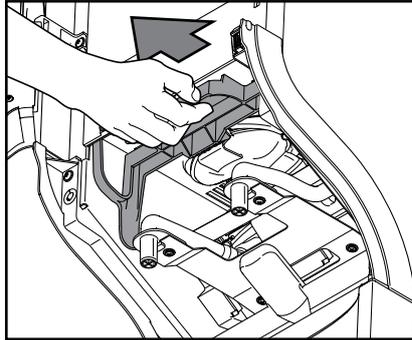

Fig. 37
- c. Pull the release bar to release the complete mixing console (fig. 37).